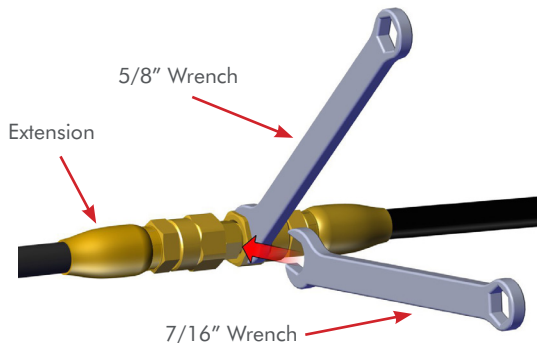

Figure 4
STEP 5 While holding the male fitting in place with a 7/16" wrench tighten both female fittings a quarter turn with a 5/8" wrench. (FIG. 4 & 5)